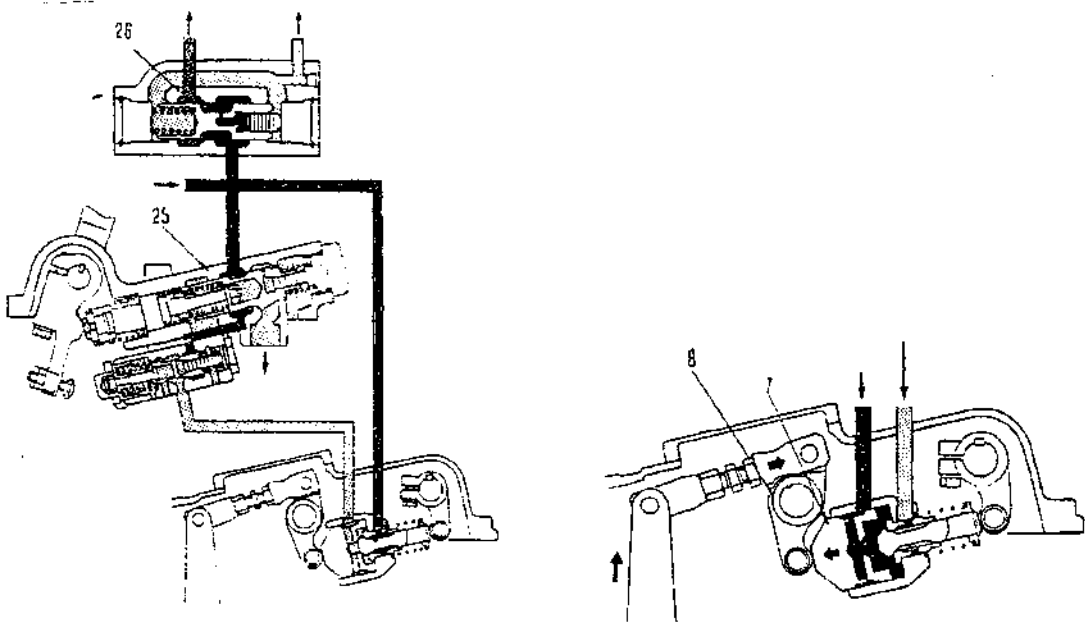

Fig. 2-77
When brake is released: There are two oil lines which flow from steering pump. One oil line flows from the steering pump to port A and another oil line flows directly to port B through steering valve. Because the steering lever is not pulled, so interlock control valve does not move. The passage to port A is also closed, so the oil only flows to port B, then through orifice "a" flows to port C. However, the brake pedal is not being depressed, so the passage between port C and port D is shut off. As a result, the oil pressure rises and when it exceeds the setting pressure of the main regulator valve (26), the oil flows to the torque converter. At this time, the normal oil pressure valve in the circuit is 2.16MPa, as shown in Fig 2-77.